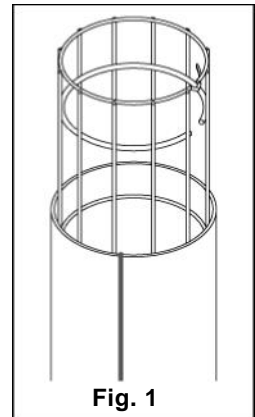

Fig. 1
1. Slip filter bag over the cage, making sure that the bag seam is not over the split in the top collar of the cage. (See Fig. 1)
1. From the top side of the tube sheet, lower the bag into the housing up to the bag cuff. (See Fig. 1)